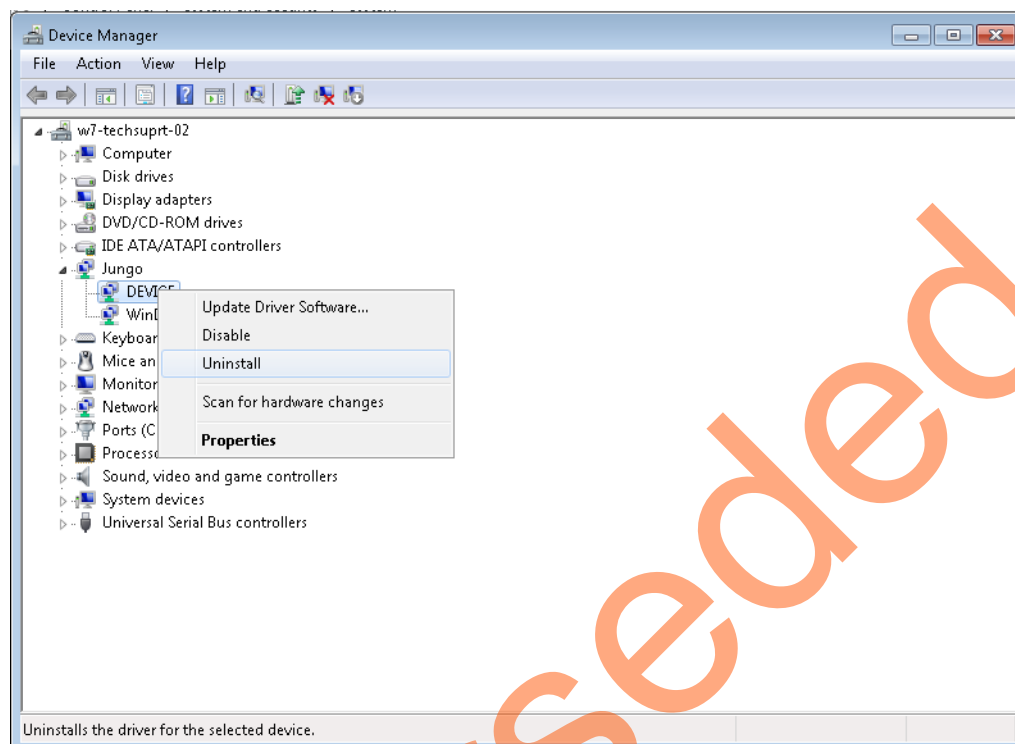

Figure 11 • Device Uninstall
- a. To uninstall previous Jungo drivers, go to device manager and right-click **DEVICE** and select **Uninstall** as shown in Figure 11.